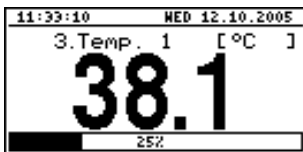

Fig. 6.7. "Single channel" mode
- **"Single channel"** mode (Fig. 6.7) enables the last measurement for one of the measurement channels to be viewed in the numeric and graphic form (bar).